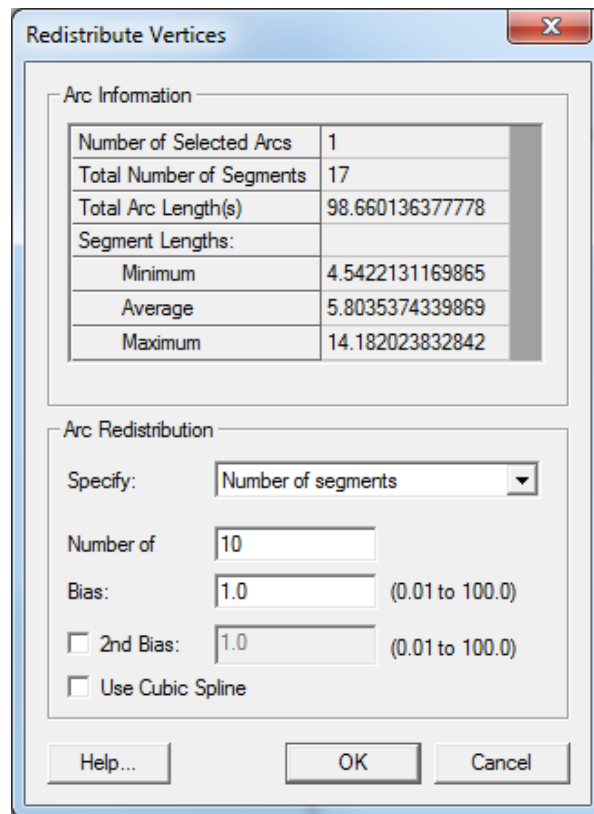

Figure 5 Arc Redistribution dialog
- Set *Number of* to “10”. Leave everything else at the default settings (Figure 5).